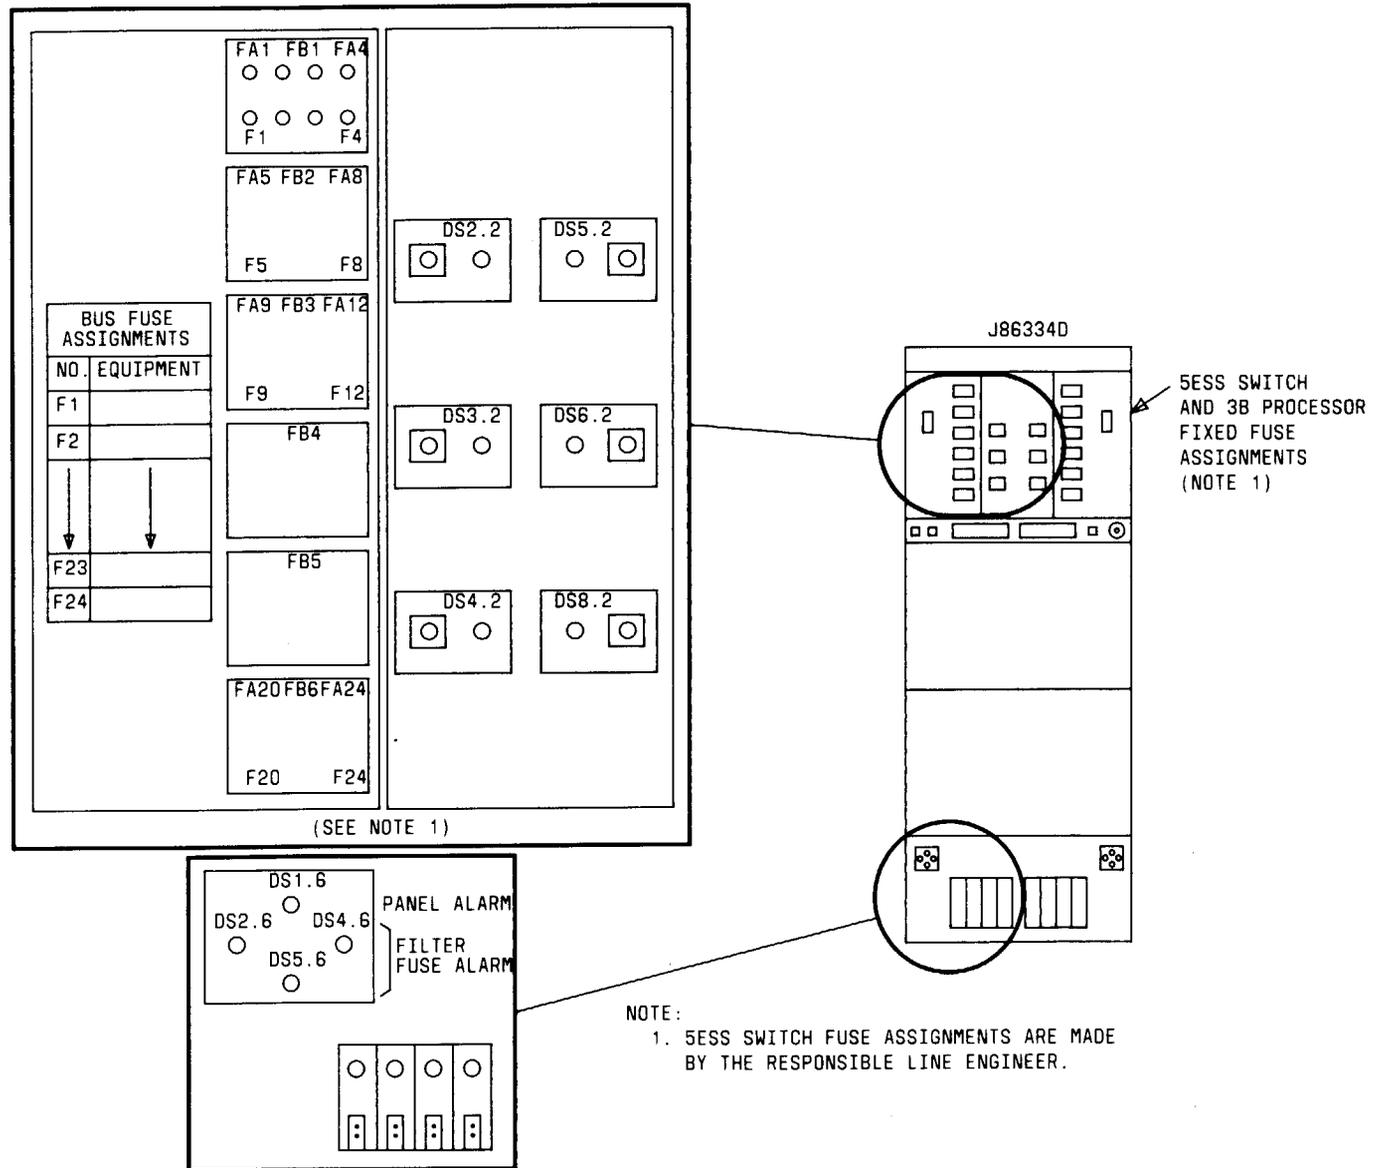

Fig. 2—J86334D DC Power Distributing Frame
2.02 The J86334D dc power distributing frame (Fig. 2) consists of a single bay cabinet which is approximately 72 inches high, 30 inches wide, and 22 inches deep. The cabinet includes door frame as-